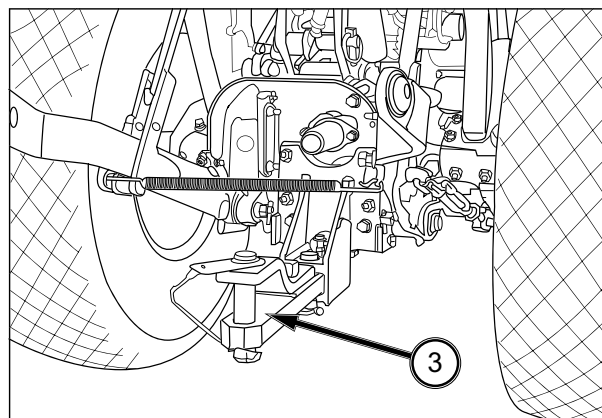

FIG. 5-61
FIGS. 5-61 & 5-59: When raising the front axle, the jacking point is the front hitch (1) or the front pivot (2). For the rear axle, the jacking point is the rear hitch (3).